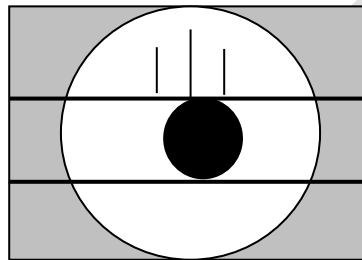

Figure 15 Move the lower thin line to the lower end of the indentation
- Rotate the measuring wheel so that the lower thread just snaps the lower end of the indentation to the indentation. See Figure 15.